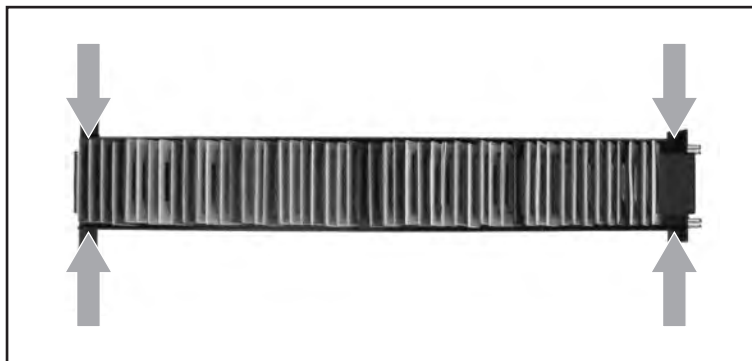

Figure 11: Pinch the magazine at its four corners (as indicated by the arrows) to free it from the magazine drawer.
5. Using both hands, pinch the four corners of the magazine together (is shown in Figure 11 below) until you are able to lift the magazine away from the drawer.